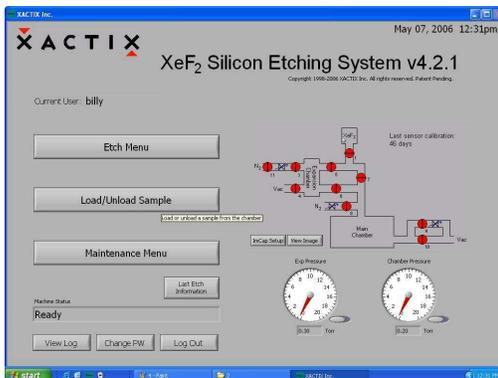

Figure 2.28
- 4) Click Logout (Figure 2.28)